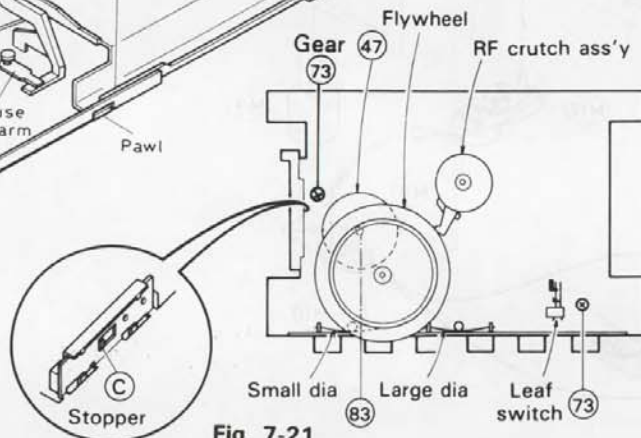
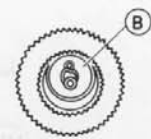

Fig. 7-21
Fig. 7-19
- Gear (47) ... Below the flywheel (Fig. 7-19, Fig. 7-21)
- Lock arm (Fig. 7-21)